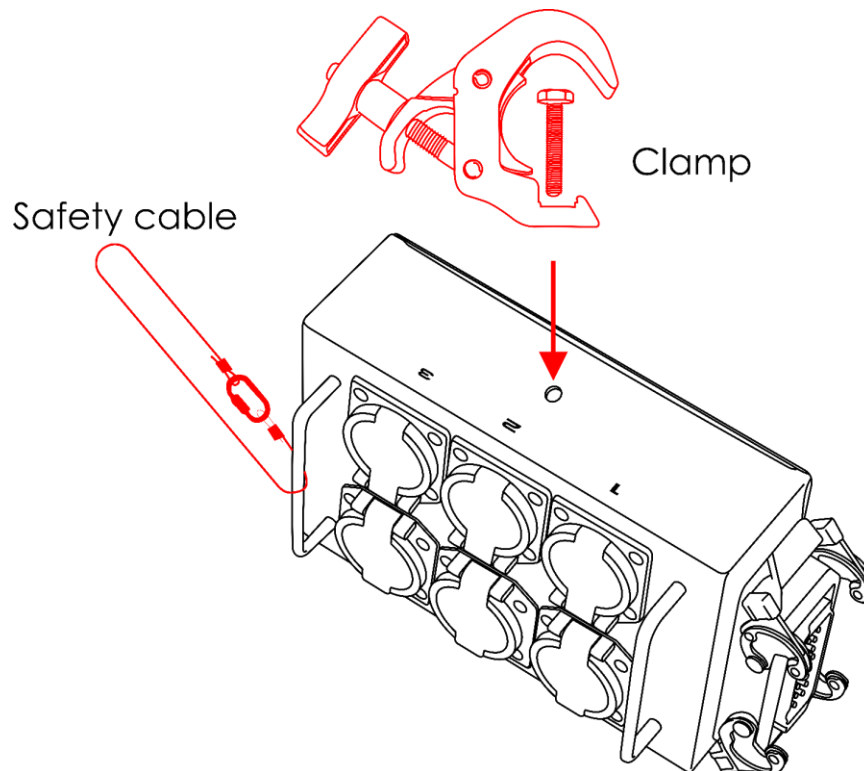

Fig. 04
- 01) Turn one or both the **M10 clamp mounting screws (04)** counterclockwise to remove them.
- 02) Install the clamp, as shown in Fig. 04. Make sure that the clamp is suitable for attaching the device to a truss.
- 04) Secure the device with a secondary suspension, for example a safety cable. Make sure that the secondary suspension can hold 10 times the weight of the device. If possible, the secondary suspension should be attached to a supporting structure independent of the primary suspension. Put the safety cable through the handle, as shown in Fig. 04.